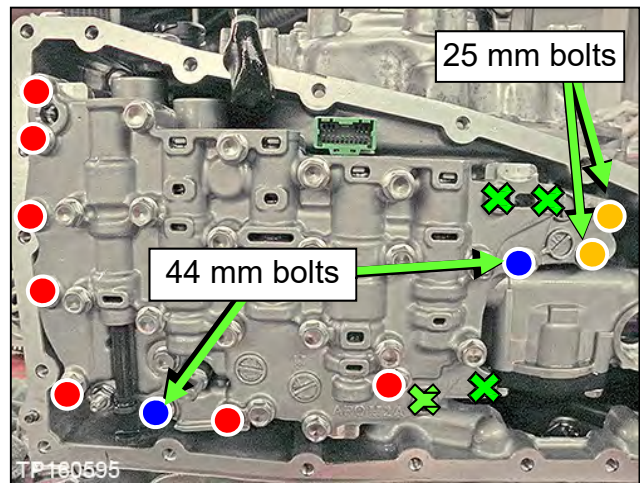

Figure 152
117. Install the Control Valve with eleven (11) mounting bolts (Figure 152).